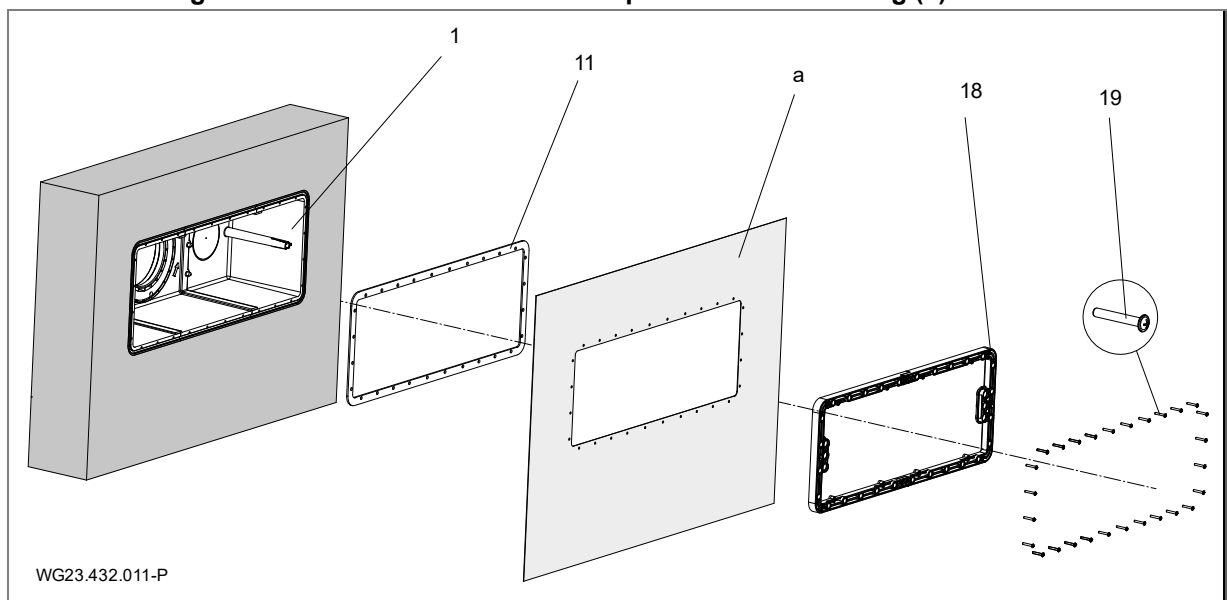

Fig. 7
It is recommended to lay a surrounding ring of epoxy resin/quartz sand at the pool-side outside wall of the housing (1) as a seal to the concrete wall. See "Fig. 7" on page 14